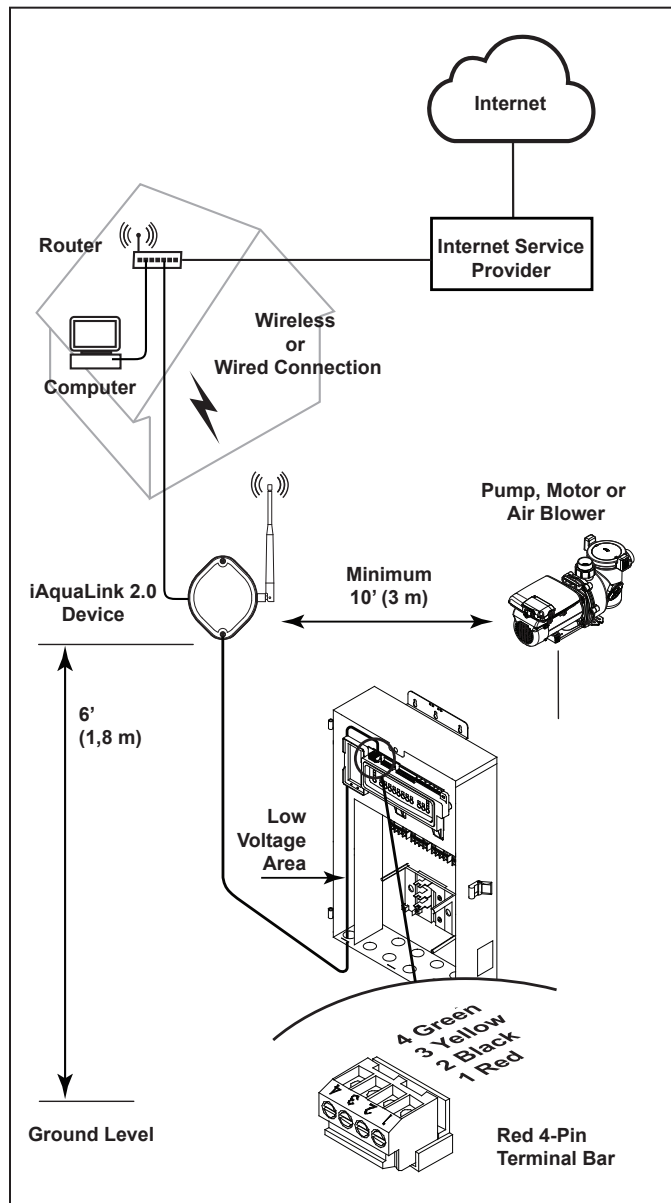

Figure 3. iAquaLink 2.0 J-Box Outdoor Installation
2. Mount the outdoor iAquaLink 2.0 J-box at least six (6) feet (1,8 m) above the ground, at least ten (10) feet (3 m) from any motor or air blowers that may be in the vicinity, and at least five (5) feet (1.5 m) away from other transceiver J-boxes. See Figure 3.